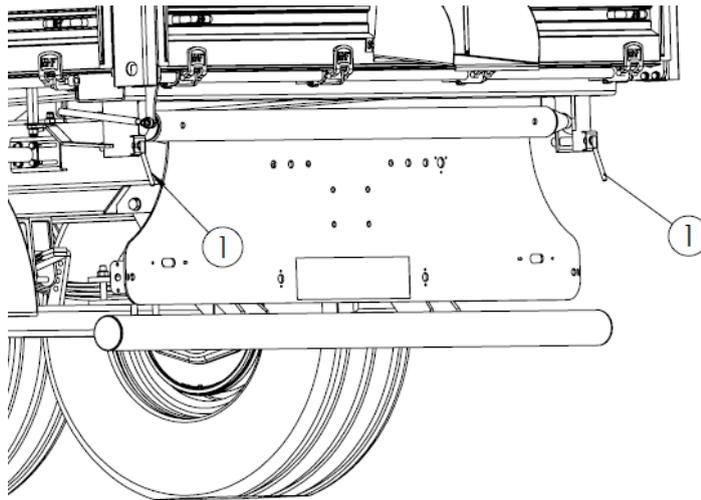

Fig. 17. Tipping safety pins
- remove the pin connecting the load-carrying body to the chassis frame (Fig. 17)
- when unloading to the rear – the pins (Fig. 17) must remain in the rear sockets of the body;